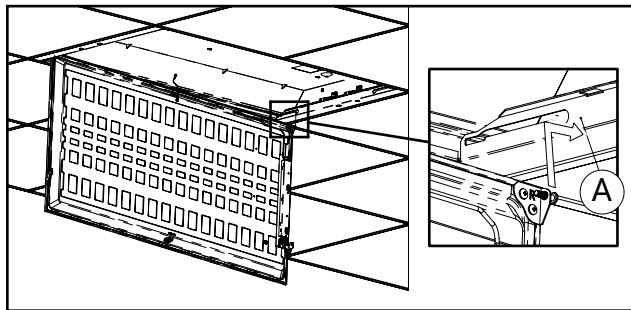

Figure 8a.
- Insert the right shoulder screw on the LED panel into the entrance of the far key slot on the right anchor rail (Fig. 8a).